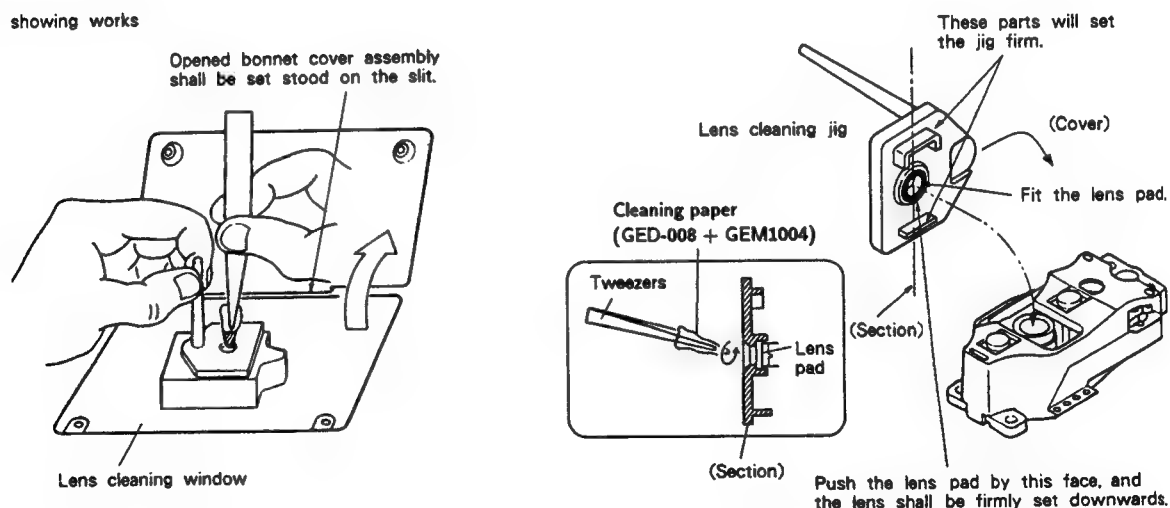

Fig. 13 Lens cleaning
2. Switch the power off, and open the bonnet cover assembly. The opend part is called "lens cleaning window". (Refer to Fig. 13)